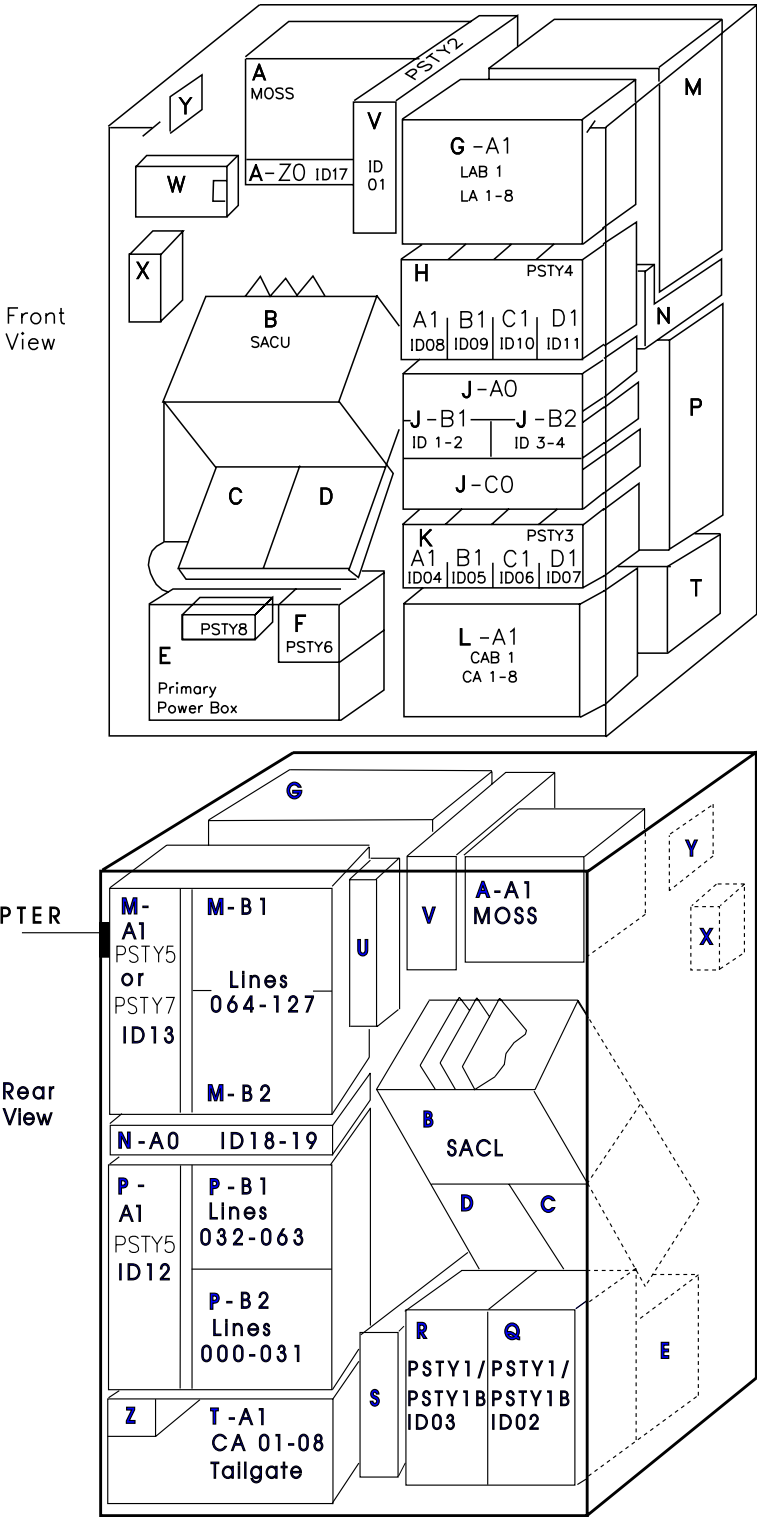

Figure 4-156. Frame 01 Front and Rear View
5. Refer to Figure 4-156 on page 4-169 to locate the SAC boards (SACU and SACL).